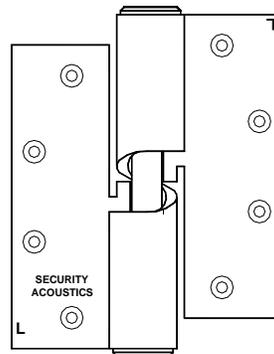

FIGURE 4
**B.** Mount the Gravity Glide hinges (**Fig. 4**) to the frame and door with the 12-24 flat head machine screws provided. The hinge leaf with the pin mounts to the frame. All hinges are handed for left hand and right hand assemblies and are marked **L** for left hand or **R** for right hand on each leaf for proper identification. Set the door approximately 170 degrees in the open position and lift and lower the door onto the hinge pins. Note that acoustic doors are extremely heavy and assistance is recommended in hanging the door. Caution should be exercised to avoid damaging the hinge pins and the door bottom mortise in this step. Note that if flush bolts are provided for paired openings, these should be installed prior to hanging the door. Gravity Glide hinges are factory lubricated and should only require further lubrication as an annual maintenance task.